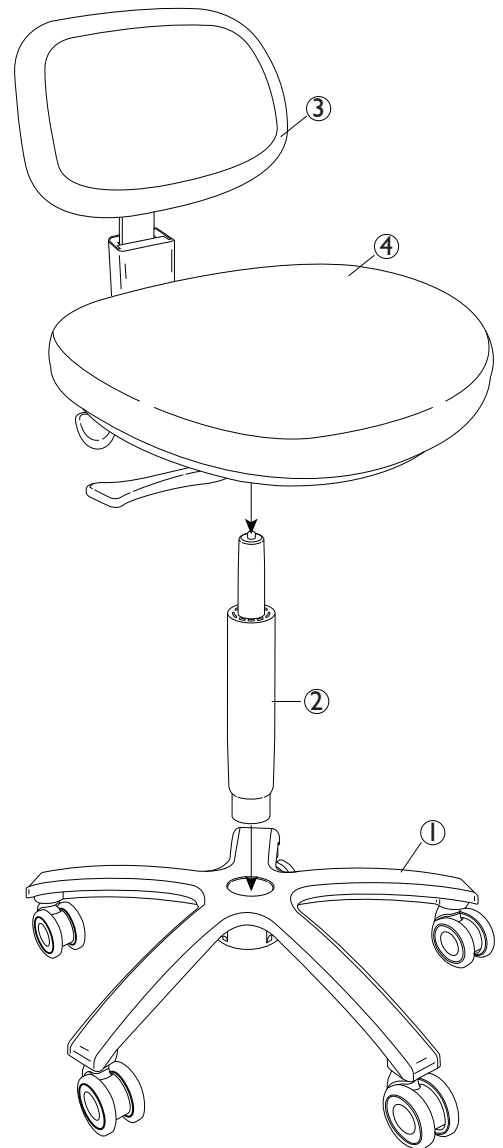

Figure 4: Installing the Seat Back Assembly
- 1** Remove the Stool Base (Figure 4, item 1) with Casters from its packaging and place it flat on the floor.
- 2** Remove the Gas Cylinder (Figure 4, item 2) from its packaging and install it into the Stool Base.
- 3** Remove the Seat and Back Assembly (Figure 4, item 3) from its packaging and install it onto the top of the Gas Cylinder.
NOTE: Lightly press down on the Seat Cushion (Figure 4, item 4) to ensure the Cushion is fully seated onto the Gas Cylinder.